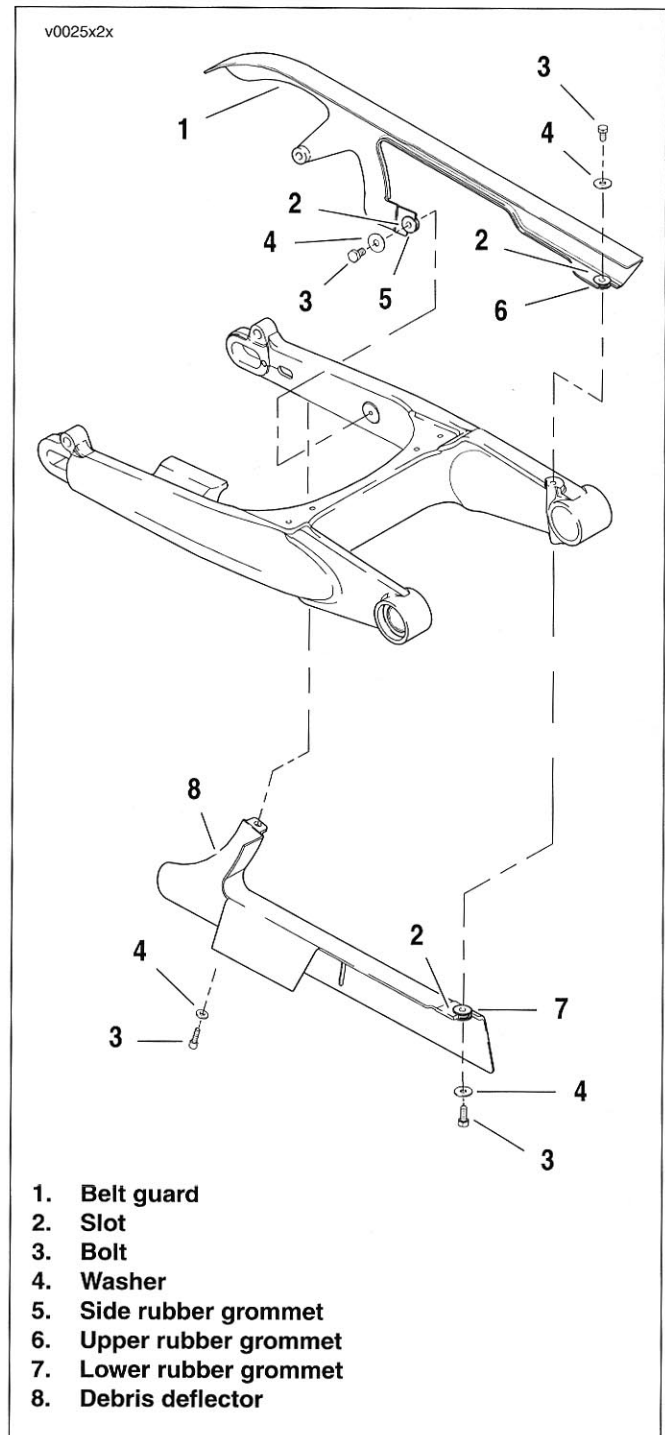

Figure 2-99. Belt Guard/Debris Deflector
1. See Figure 2-99. Unthread left side lower shock mount bolt from belt guard (1) without removing shock mount bolt from rear fork.
2. Pull belt guard (1) rearward off of side rubber grommet (5) and upper rubber grommet (6). If necessary, remove fasteners (3) holding grommets (5, 6) to rear fork.
1. See Figure 2-99. Remove bolt (3) and washer (4) from the underside of the rear fork near the rear shock mount.
2. Pull the debris deflector (8) rearward off of the lower rubber grommet (7) and remove the debris guard.
3. Inspect the rubber grommet (7) on the rear fork and remove the bolt and rubber grommet if necessary.
1. See Figure 2-99. If necessary, replace the rubber grommets (5, 6) and bolts. Tighten bolts to 6-10 Nm (53-88 **in-lbs**).
1. See Figure 2-99. If necessary, replace rubber grommet (7) and bolt (3). Tighten bolt to 6-10 Nm (53-88 **in-lbs**).
2. Slide debris deflector slot (2) into position on the rubber grommet (7).
3. Thread rear bolt (3) and washer (4) through debris deflector (8) into rear fork. Tighten bolt to 6-10 Nm (53.1-88.5 **in-lbs**).